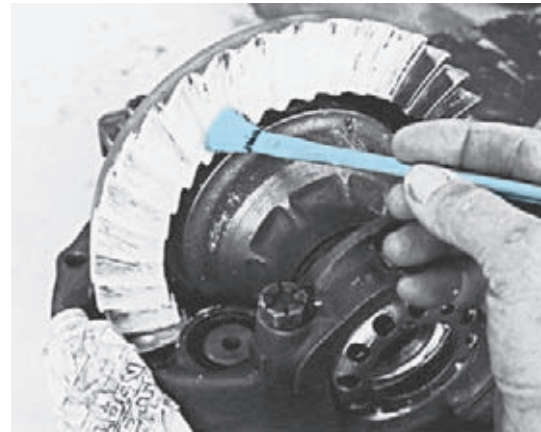

FIGURE 12-89 The marking compound should be applied in a very thin coating over the entire gear tooth.
1. Apply a very thin film of marking compound on both sides of the ring gear teeth (Figure 12-89). Coat all of the teeth; if you are not concerned with ring or pinion gear runout, coat only a 6- to 10-tooth section.